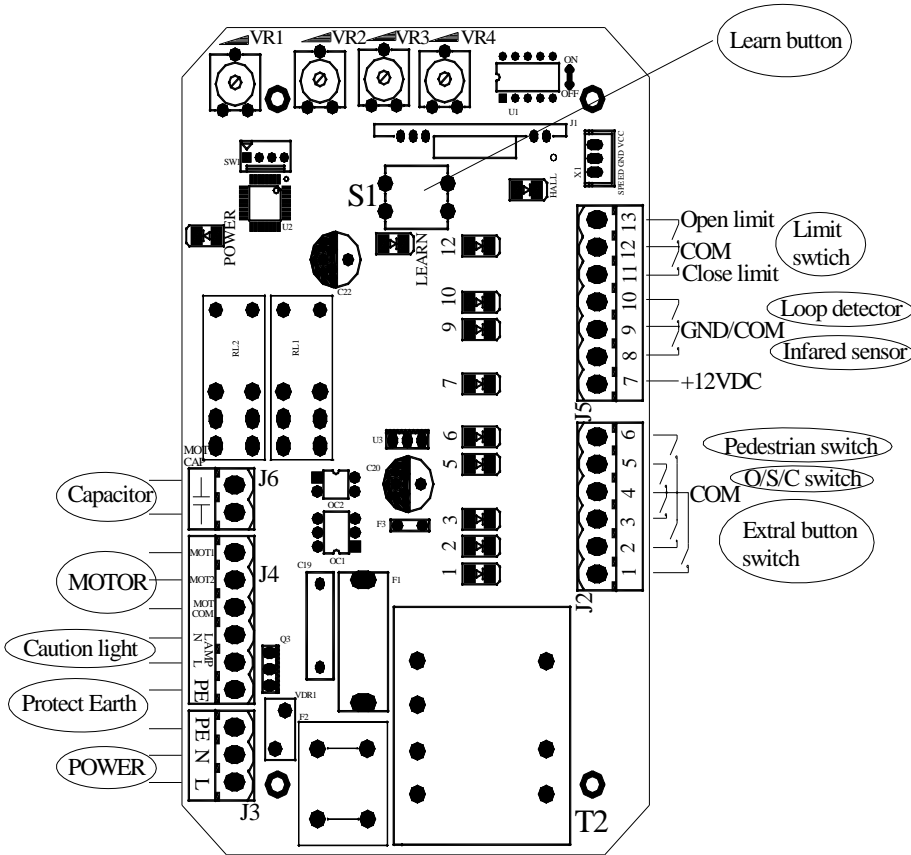

Fig.8
Make sure that the power is OFF before making any electrical connections. Remove the cover, perform the wiring (See Fig.8 and wiring notes for control board) and replace the cover again.
a. Adjust of the Potentiometers (see Fig.8)
- Adding extra remote controls (Learn): Remove the cover, press and hold the learn button 'S1' (Fig.8) more than 2 seconds, then the 'LED of LEARN' (Fig.8) will be on, then press the remote control button which you want to use, the 'LED' will turn on about 2 seconds and then turn off again. The learning process is finished. Up to 25 remote controls may be used.